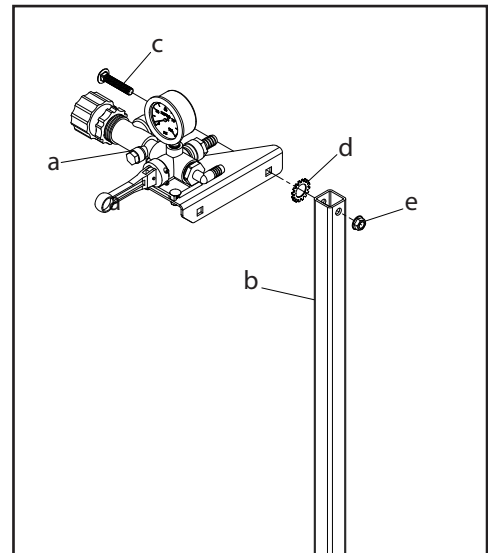

Figure 4: Control unit installation
1. Attach the control unit (Part # CATX-A6B) (a) to the control post (Part # T714) (b) with the included 3/8" x 2" carriage bolt (c), 1/2" tooth lock washer (d), and 3/8" flange nut (e) (Figure 4).